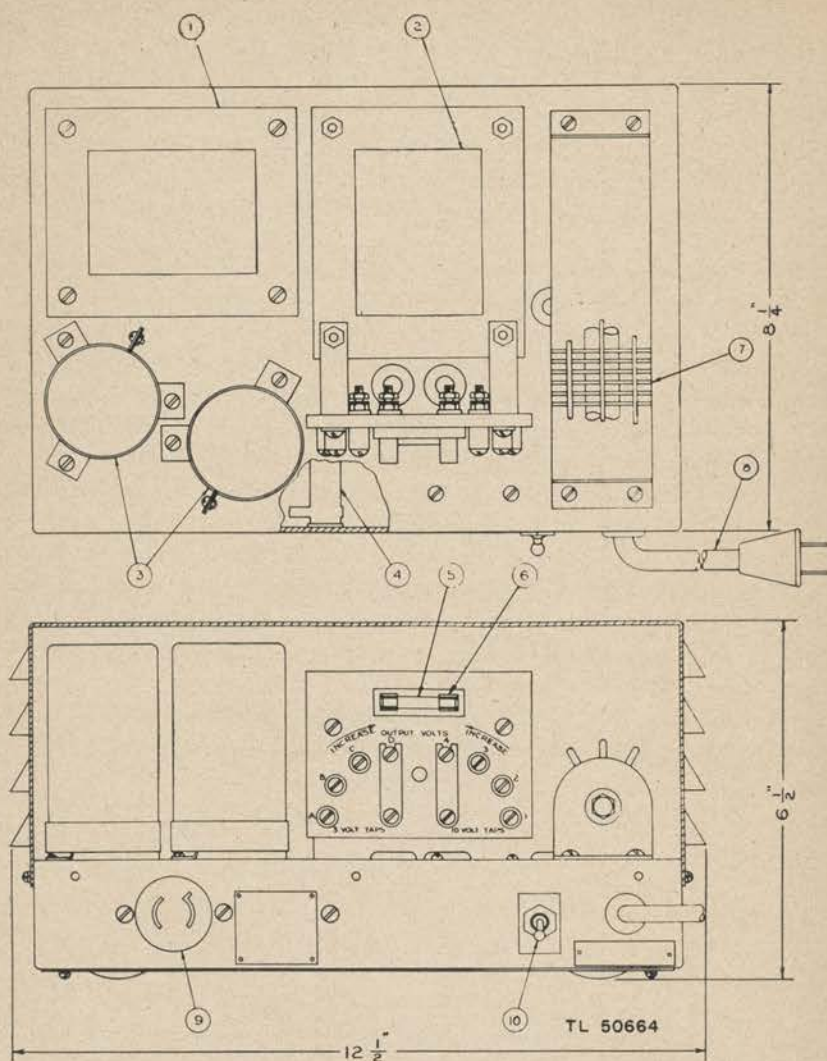

Figure 11. Rectifier RA-37—outline dimensional and parts location sketch.
e. See that the cartridge fuse ((5), fig. 11) is tight in its clip. If loose, remove the fuse and bend the clips by hand until they grip the fuse tightly. Clean the clips, fuse ends, and all other contact surfaces.
c. The following causes of trouble may be present if the rectifier fails to operate properly (reference symbols as shown on figure 11 and in paragraph 18):